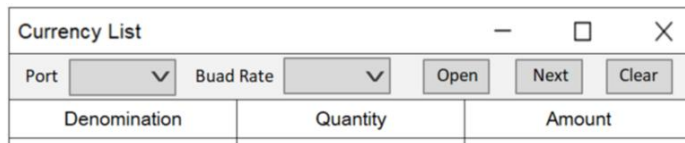

Figure 62
1) Open the upper computer software provided by our company “UpperMonitor”, as shown in Figure 62 below.